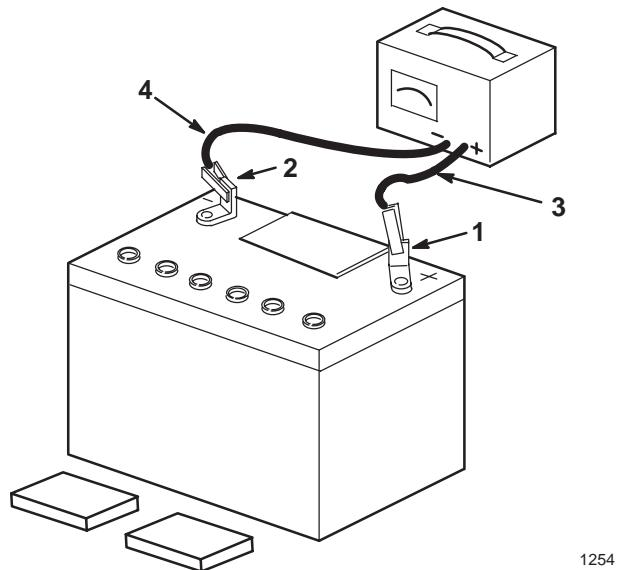

Figure 10
3. Leave the filler caps off and connect a 3–4 amp battery charger to the battery posts (Fig. 10). Charge the battery at a rate of 4 amperes or less for 4 hours (12 volts).
- When the battery is fully charged, unplug the charger from electrical outlet, then disconnect the charger leads from the battery posts (Fig. 10).